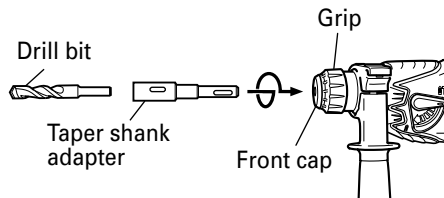
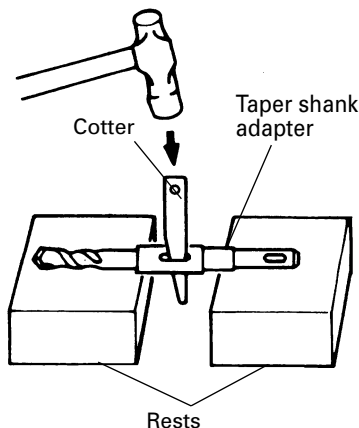

Fig. 23
Fig. 24
- (1) Mount the taper shank adapter to the rotary hammer. (Fig. 23)
- (2) Mount the drill bit (taper shank) to the taper shank adapter. (Fig. 23)
- (3) Turn the switch ON, and drill a hole to prescribed depth.
- (4) To remove the drill bit (taper shank), insert the cotter into the slot of the taper shank adapter and strike the head of the cotter with a hammer supporting on the rest. (Fig. 24)